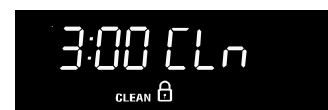

Fig. 1
2. Press (Clean). "CLEAN" will flash, "3:00" (hours) and the Cooktop locked icon will show in the display (See Fig. 1). Note: 2 hours of Self-Cleaning time may be chosen by pressing (Speed clean) or 4 hours by pressing the (Maxx clean) at this time.